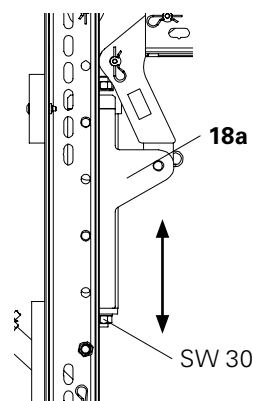

Fig. C2.01a
1. Carry out the vertical fine adjustment with the Adjusting Unit VARIOKIT (18a) and Heavy-Duty Spindle SLS (2b) or (2c). (Fig. C2.01a + C2.01b)
2. Slightly loosen the Swivel Coupler SW 48/48 (36) on the diagonal Scaffold Tube Steel (34b).
3. Height adjustment is carried out by turning the Adjusting Unit VARIOKIT (18a) using a ratchet wrench and socket SW 30. (Fig. C2.01a)
5. Tighten the Swivel Coupler SW 48/48 (36) on the diagonal Scaffold Tube Steel (34b).